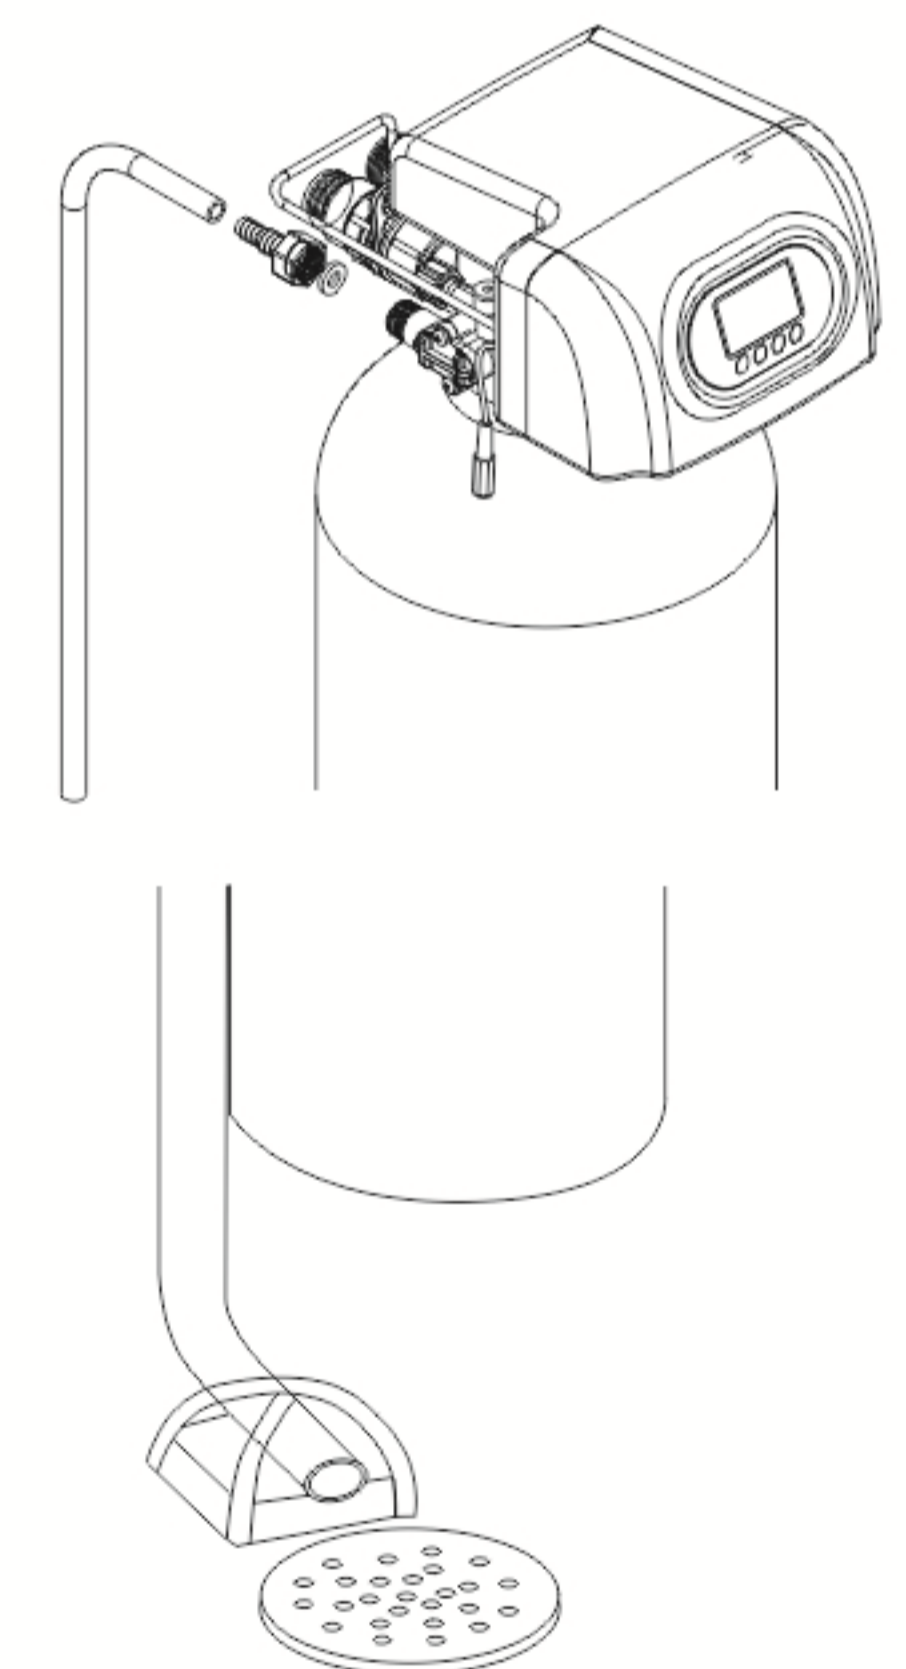

Figure 1-4
⑤ Install drain pipeline
a. As the Figure 1-4 shows, slide the drain hose connector into drain outlet.
d. Locate the drain hose as well as the Figure1-4 shows.
● Be sure not connect drain pipe with sewer directly, and leave a certain space between them, avoid wastewater being absorbed to the water treatment equipment, such as showed in the Figure1-4. If want to use the wastewater for other use, it can be filled with a corresponding container. Similarly, the drain pipe should be kept a certain space with the container.